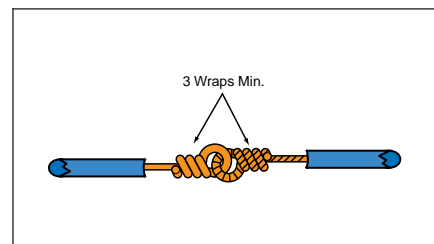

Figure 4 Solder Connections
7. Firmly secure the remaining wire and begin wrap motion in the opposite direction. Upon completion of one wrap on each wire, complete the wrapping process to obtain the three wire wrap minimum requirement. (See Figure 4.)
8. Terminate any remaining wire length using a flush cut pattern. (This eliminates any wire protrusion that could extend beyond the outer circumference of the wrap and cause damage to the insulation/tubing that could result in a short.) (See Figure 4.)